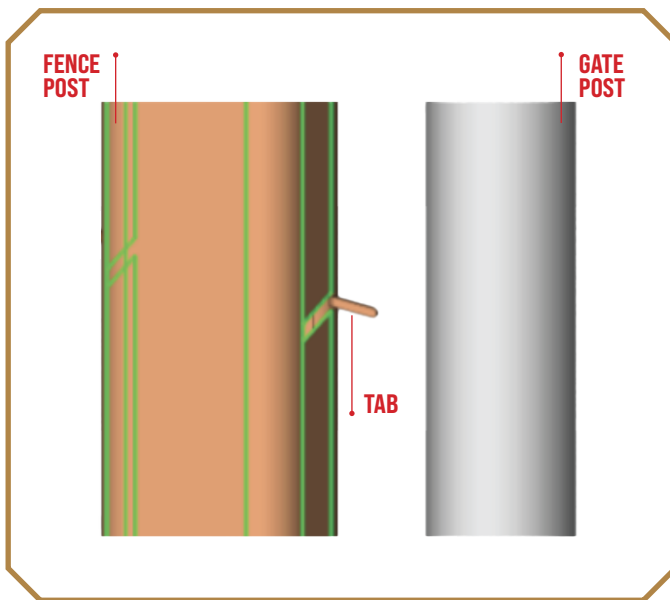

Figure 1
1. To prep the fence post for installation, bend out the post anchor tab with a screwdriver, set of pliers, or channel lock tool to at least 45° and not more than 90°. (Figure 1)